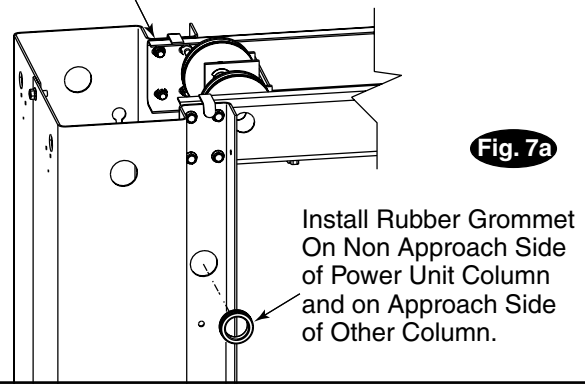

Fig. 7a
7. Install overhead assembly to column extensions with (16) 3/8"-16NC x 3/4" lg. Flanged HHCS, Flanged Locknuts and Star Washer, Fig. 7a. To ease installation, use the tabs on the overhead to rest it on the extensions when installing.